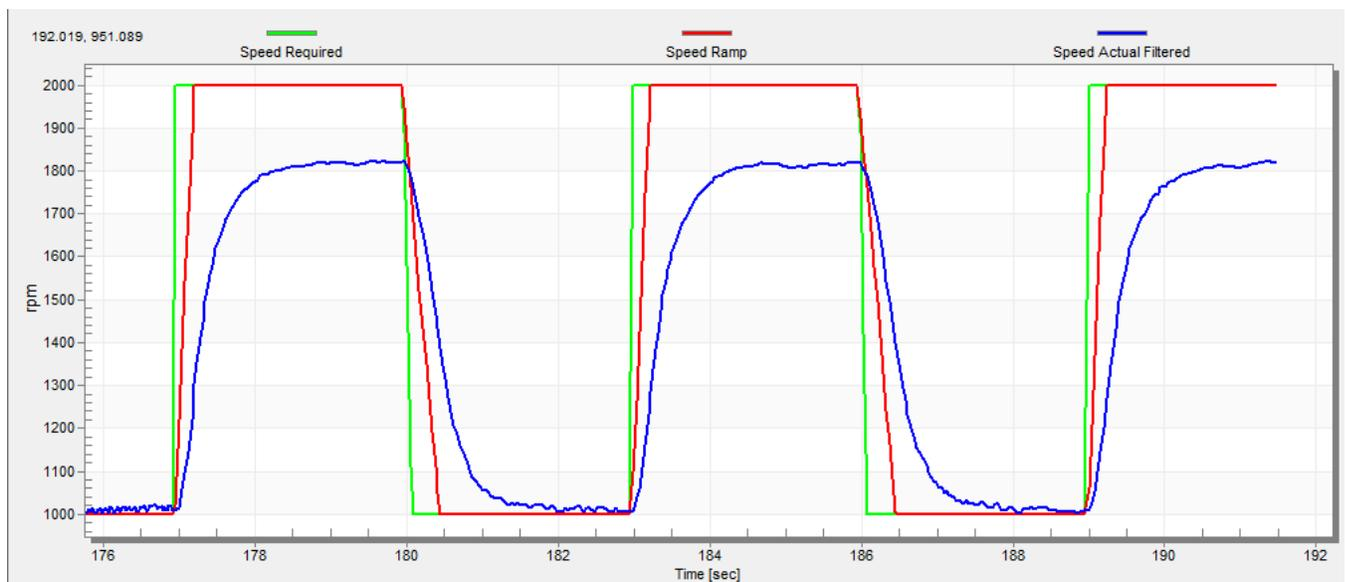

Figure 48. Speed Controller Response—SL_Ki value is low, Speed Ramp is not achieved
The motor speed control loop is a first-order function with a mechanical time constant that depends on the motor inertia and friction. Obtaining these mechanical constants using the PMSM electrical and mechanical parameter measurement process is described in Section 9.3.1.6, “Mechanical parameters measurement” and Section 9.3.2, “PMSM electrical and mechanical parameters measurement process”. If these mechanical constants are available, the PI controller constants can be tuned using the loop bandwidth and attenuation. Otherwise, the manual tuning of the P and the I portions of the speed controllers is available to obtain the required speed response (see the example response in Figure 48). There are dozens of approaches available to tune the PI controller constants. The following steps provide one of these examples to set and tune the speed PI controller for a PM synchronous motor:
- The “SL_Ki” value is low, and the “Speed Actual Filtered” does not achieve the “Speed Ramp” (see Figure 48).